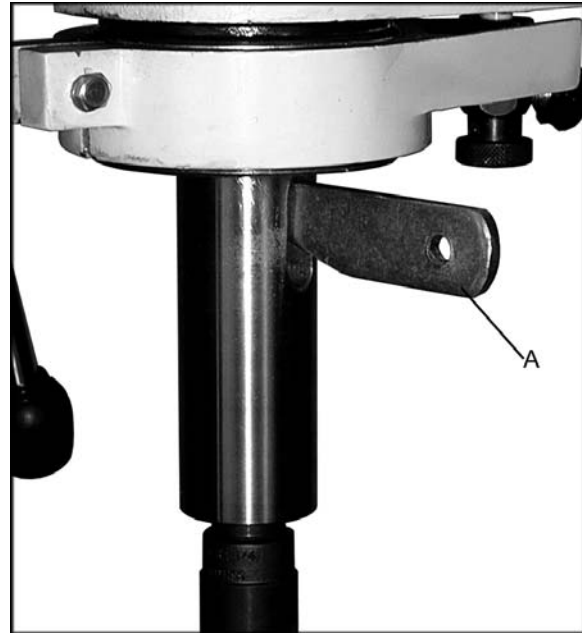

Figure 11
5. Insert the drift key (A, Fig. 11) into the spindle slots and tap gently until the drill bit or chuck arbor loosens.